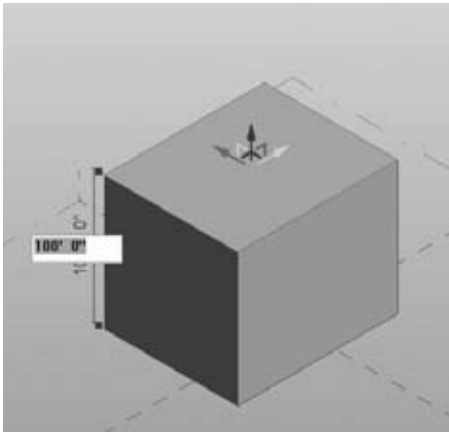

Figure 14.23
3. Select the lines, and click the Create Form tool. A box will appear, with a temporary dimension to the top of the box. Click the dimension and type 100' to set the height (Figure 14.23).